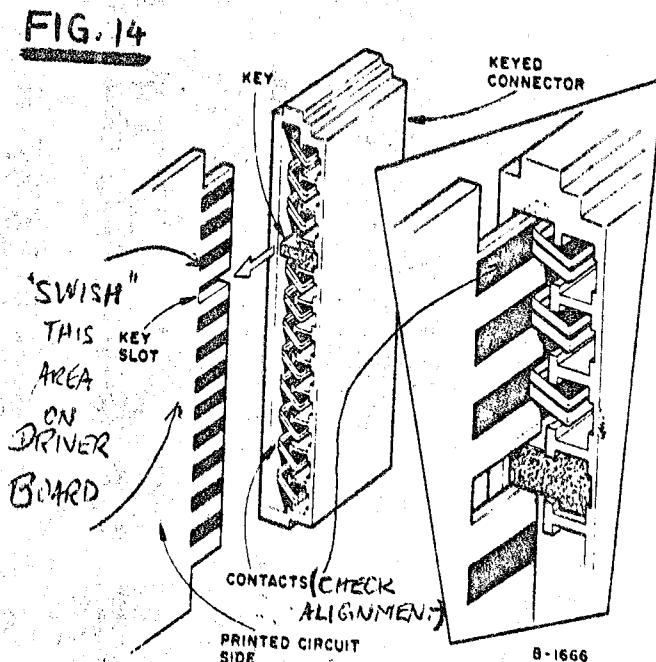

**FIG. 13**
5. Test the driver transistors with your meter on the X10 scale position. There are again 2 NPN and 2 PNP transistors which can be tested in circuit. "Reverse polarity" tests are again not too meaningful (see item 4 in TSA no-power procedure). The driver transistor layout is shown in Figure 13. Driver transistor replacement is shown in Figure 12.